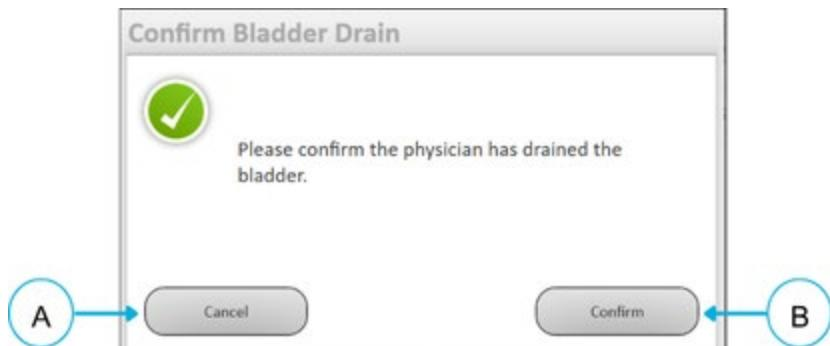

Figure 14-4: Confirm Bladder Drain
- The “Confirm Bladder Drain” screen will be displayed (**Figure 14-4**)